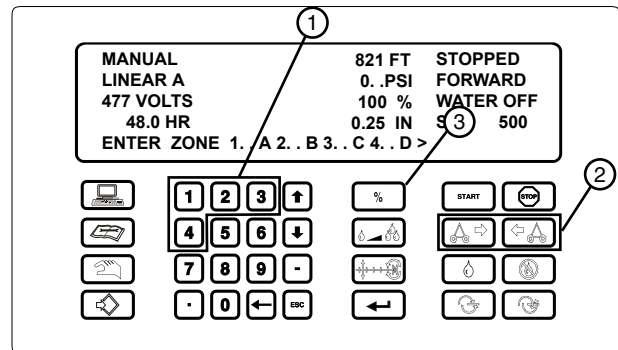

Figure 57-2 1. Numeric Keys 3. Percent Key
Select a Zone 1=A, 2=B, 3=C 4=D. See figure 57-2.
- Select the direction of movement for the span to pivot. See figure 57-2.
- Press  to set the percent timer to the desired percentage. See figure 57-2.